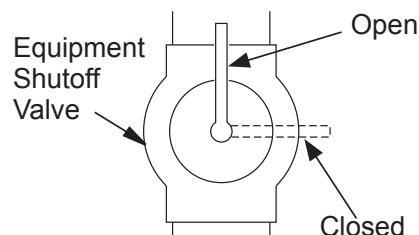

Figure 14 - Equipment Shutoff Valve
1. Close equipment shutoff valve (see **Figure 14**).
1. Open equipment shutoff valve (see **Figure 14, Page 14**).